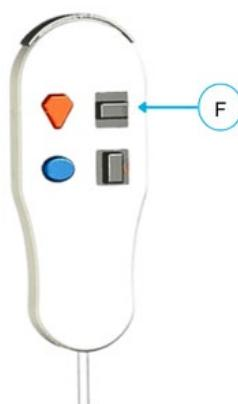

Figure 12-24: Controller Needle Advance/Retract Button
When all treatments have been completed along the Needle pathway, the Needle can be fully retracted by pushing downward and holding the **Needle Advance/Retract Button (F)** or by selecting the **[Full Retract]** option on the Generator screen (**Figure 12-24**).
1. Press downward and hold the **Needle Advance/Retract Button (F)** on the Controller until the Needle is fully retracted (**Figure 12-24**).
2. Or, select **[Full Retract]** on the Generator screen. Then press downward on the **Needle Advance/Retract Button (F)** will fully retract the Needle.